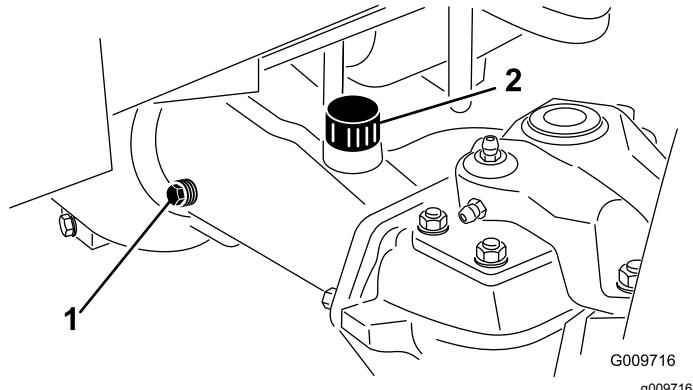

Figure 68
- Remove a check plug from 1 end of the axle (Figure 68) and make sure that the lubricant is up to the bottom of the hole.
- If the level is low, remove the fill plug (Figure 68) and add enough lubricant to bring the level up to the bottom of the check plug holes.